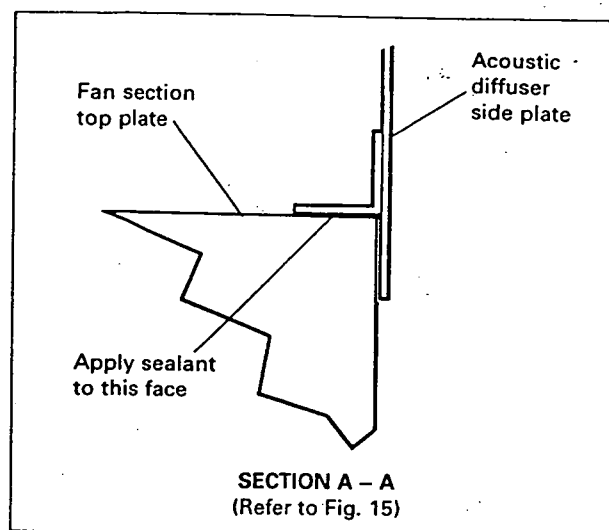

Fig. 14 Applying sealant to acoustic diffuser
- 3 Using the sealant supplied in the fixing pack, seal all around the underside of the seating flange (see Fig. 14).